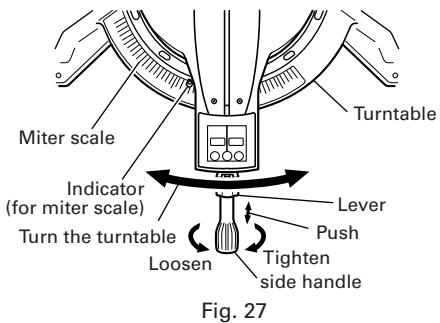

Fig. 27
- (1) Loosen the side handle and push the lever for angle stoppers. Then, adjust the turtable until the indicator aligns with desired setting on the miter scale (Fig. 27).
- (2) Re-tighten the side handle to secure the turtable in the desired position.